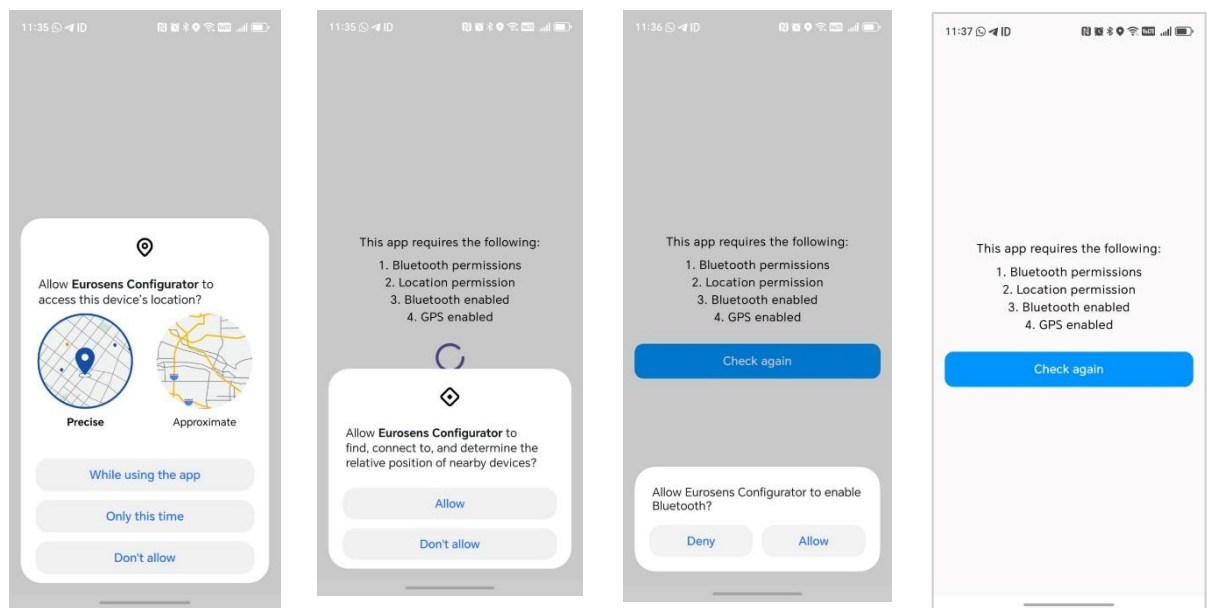

Fig. 2.1
- provide the application with all the requested information permissions (Fig. 2.1);